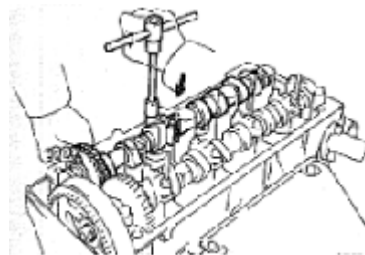

Figure 13
(2) Remove bolt and bearing cap No. 1.
(3) Install camshaft counter gear to drive gear with service bolt. See (Figure 13).